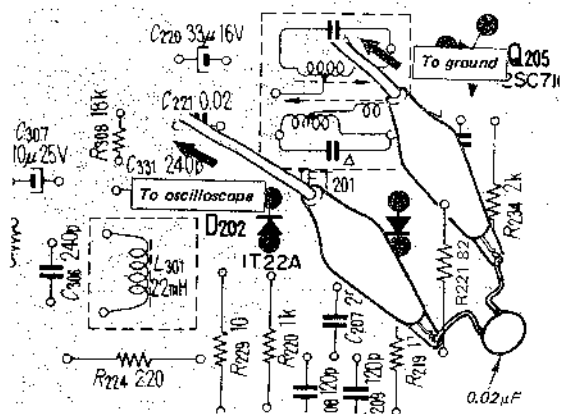

Fig. 3-3. Fm discriminator output connection
1. Connect the input cable of the oscilloscope with alligator clips to R221 and ground on the fm (a-m) front-end/i-f amp/MPX board, and solder a 0.02μF capacitor across these clips as shown in Fig. 3-3.